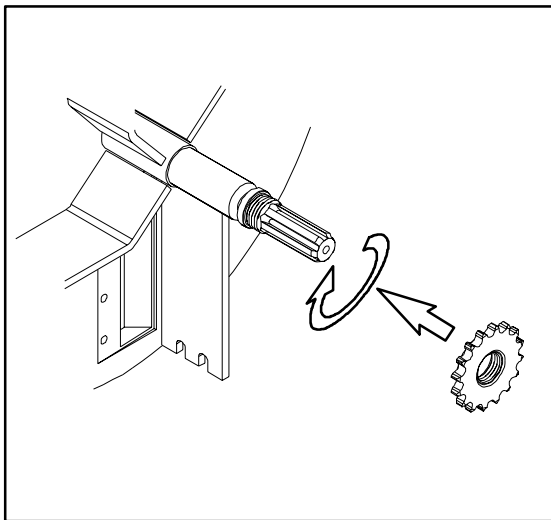

Fig.2.
1. Fasten the primary sprocket wheel on the threaded end of the drive shaft, fig. 2.